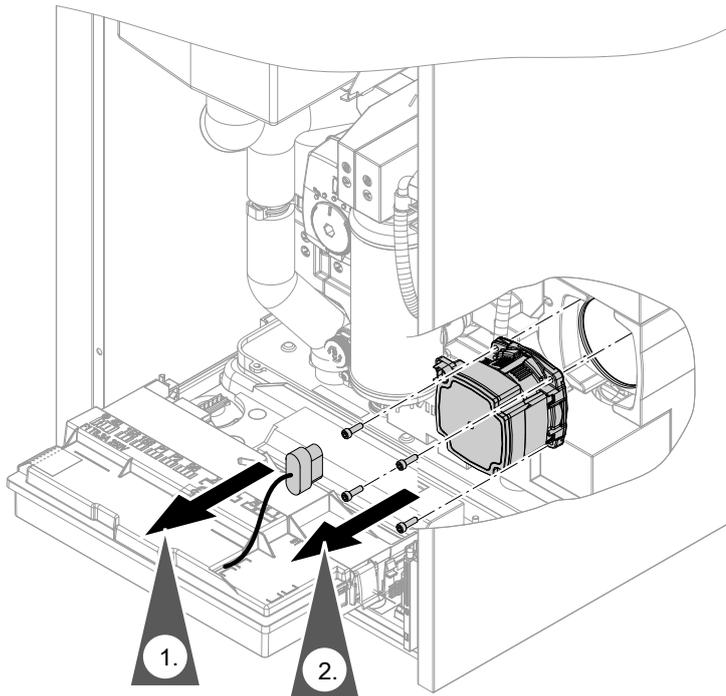

Fig. 82
- Circulation pump connection plugs: See Fig. 82.